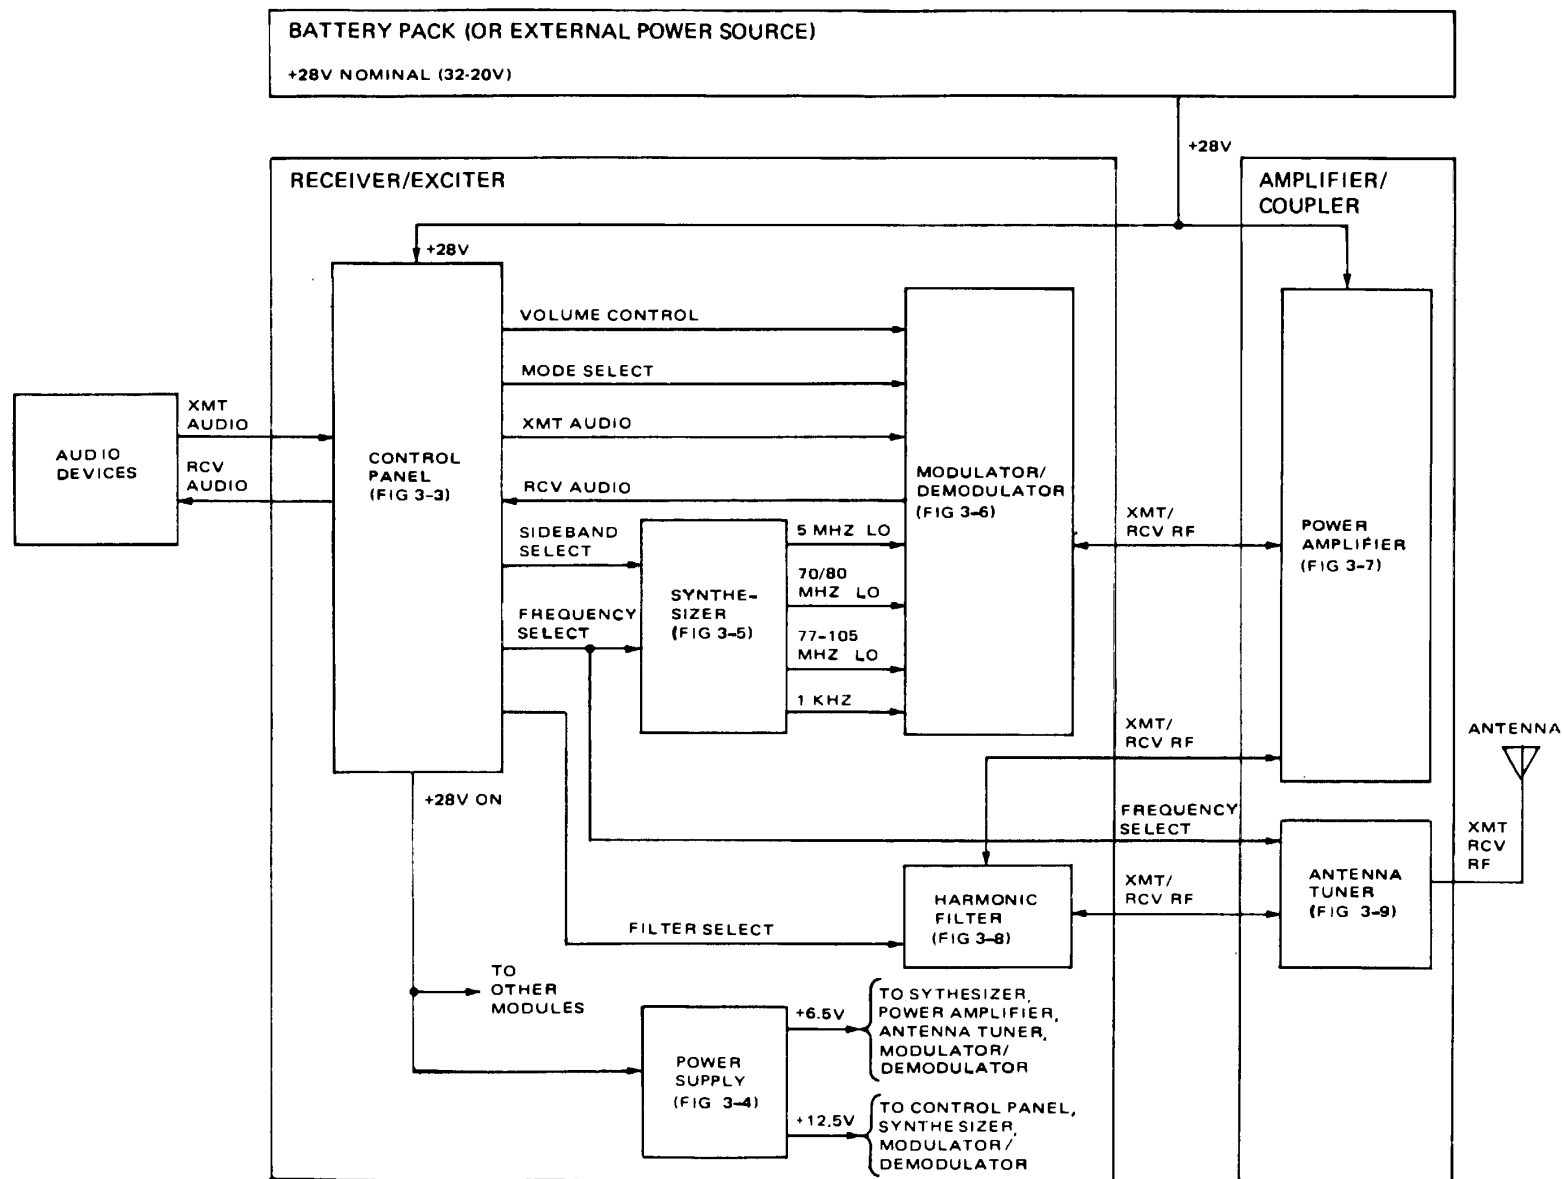

Figure 3-2. Radio Set Simplified Block Diagram
**3-10. CONTROL PANEL** (Figure 3-2). The receiver/exciter control panel provides operational control of the radio set. It couples voice or CW key from the audio devices in use by the operator, and has controls for selection of frequency, volume, mode, and sideband (SB), and illumination of frequency readouts. Frequency Select and Sideband Select signals are routed to the synthesizer, and the Frequency Select signal also to the antenna tuner. Filter Select signals are routed to the harmonic filter. Volume control, mode select and Xmt Audio are applied to, and Rcv Audio is received from, the modulator/demodulator. The control panel also